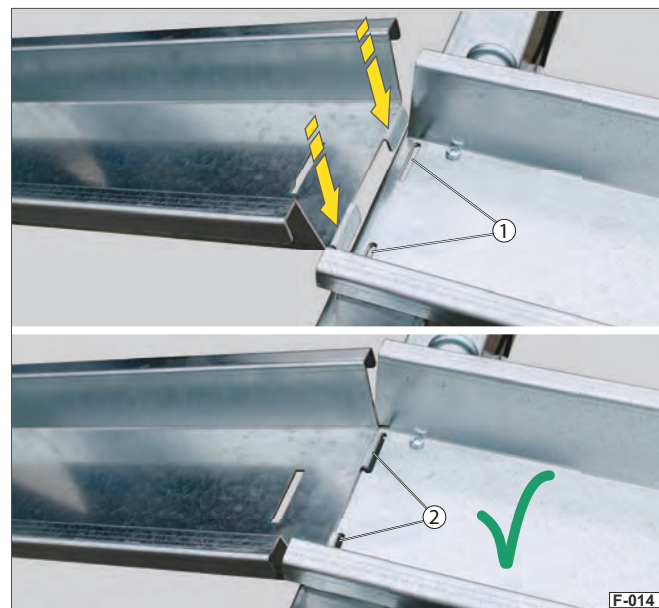

Fig. 14 Securing the loading ramp
- ▶ Hook the safety flaps (Fig. 14 /2) into the slots on the stand rail (Fig. 14 /1).